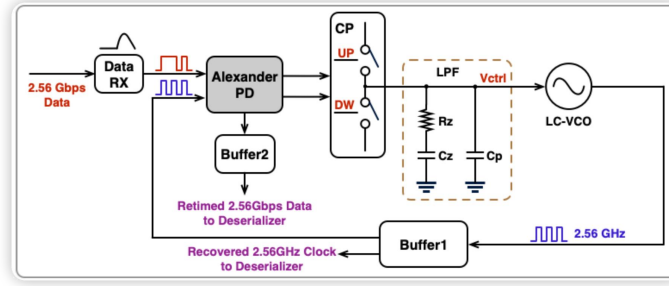

Figure 1 Block diagram of CDR ASIC
The CDR ASIC block structure is shown in figure 1. The CDR ASIC consists of an input equalizer stage, a bang-bang phase detector (BBPD), a charge pump circuit (CP), a low-pass filter (LPF) and a LC voltage-controlled oscillator (LC-VCO) circuit.